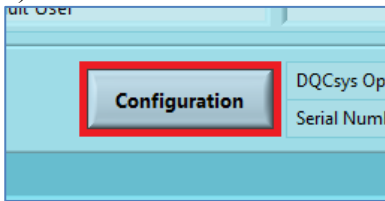

Figure 2.1.1: The **Manage User** and **Configuration** buttons.
2. Click the **Configuration** button on the **Configuration** tab of DQCsyst Operator. (Figure 2.1-1)